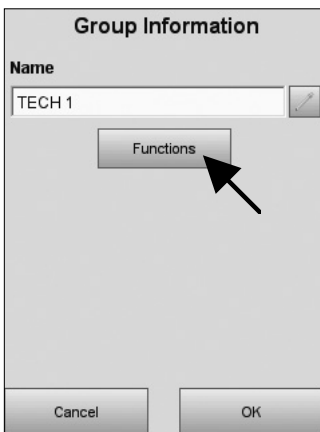

Fig. 3-62 Enter Group Name
3. In the subsequent screen (Fig. 3-62), press and type a unique name for the user group. Press .
4. To assign group functions to a user group, press **<Functions>** (Fig. 3-62).